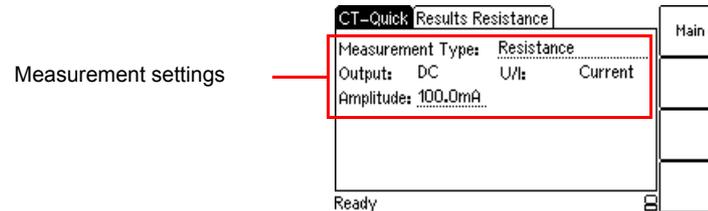

Figure 8-17 **CT-Quick** test card with settings for VT winding resistance measurement
3. Select the **Resistance** measurement type and set the amplitude of the DC output current appropriately. Refer to Figure 8-17.